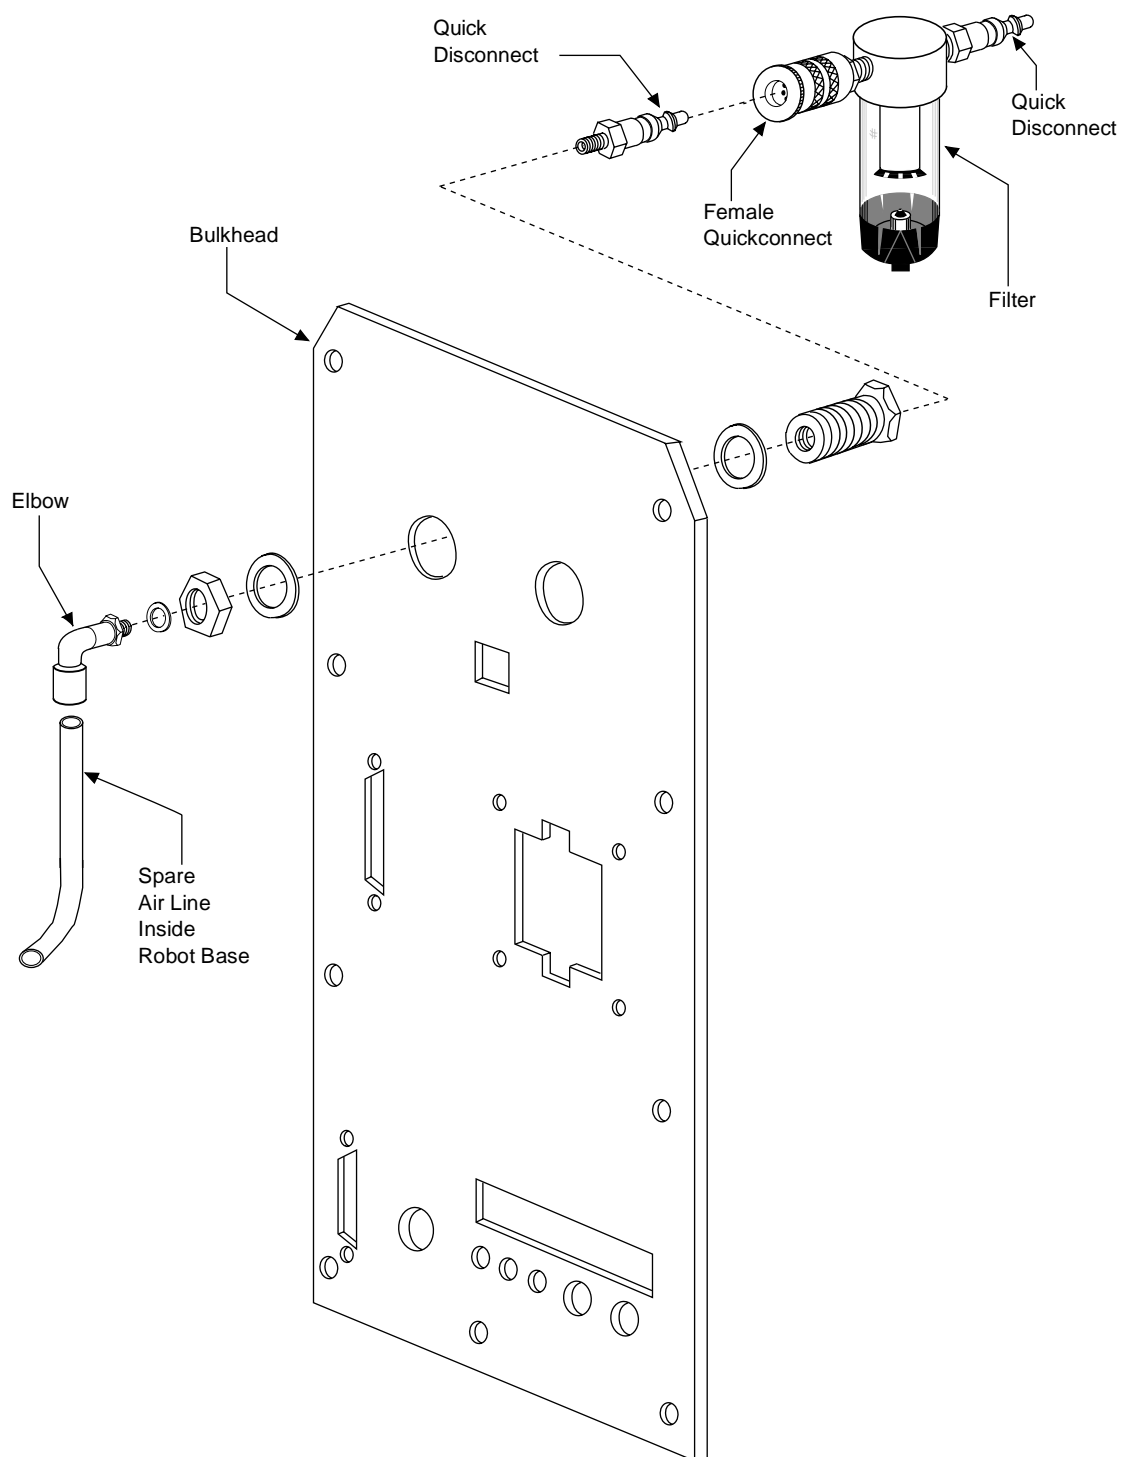

Figure 6-8. Cobra Air Filter Assembly
3. Remove the mounting nut from the bulkhead fitting assembly and insert the assembly through the opening in the rear panel of the robot. See Figure 6-8 on page 106. Insert the washer and screw in the mounting nut from the inner side of the rear panel.